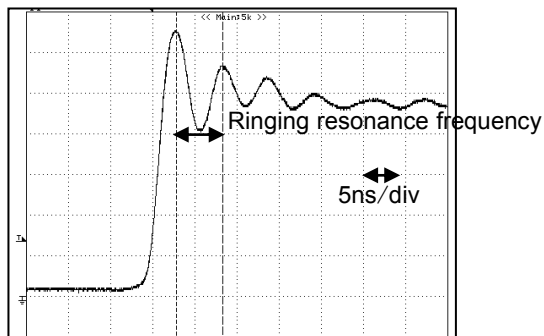

Figure 76. PWM Output waveform
- ① Measure the ringing resonance frequency " $f_1$ " of PWM output waveform (when rising) by using low capacitance Probe (e.g. FET probe) at the OUT terminal. (Figure 76)